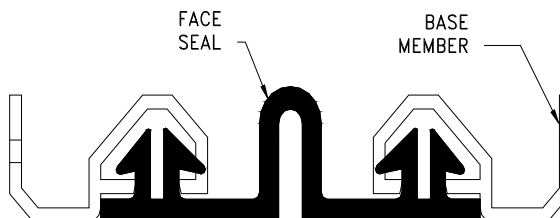

Figure 6
STEP 11. Attach the face seal to the opposite base member by inserting the face seal's arrow continuously into the base member's receiver (see Figure 6).